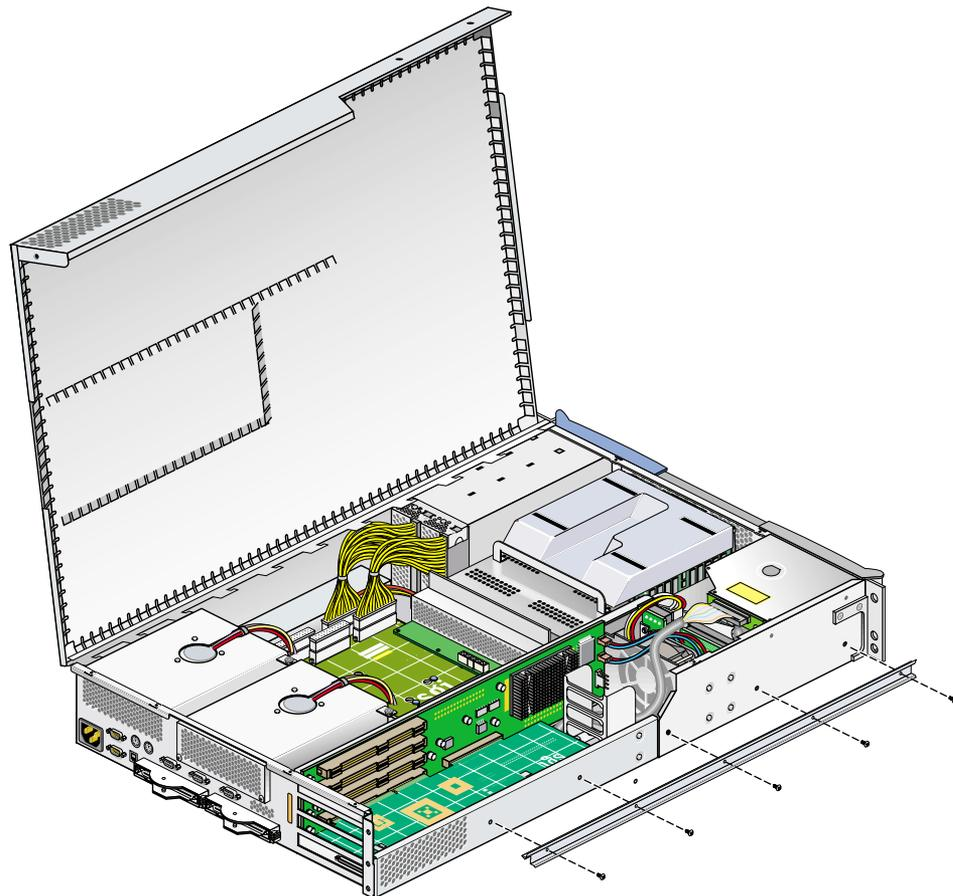

Figure 7-5 Removing the Chassis Rail
- Reattach the chassis side rail using the five screws you removed (see Figure 7-5 on page 112).